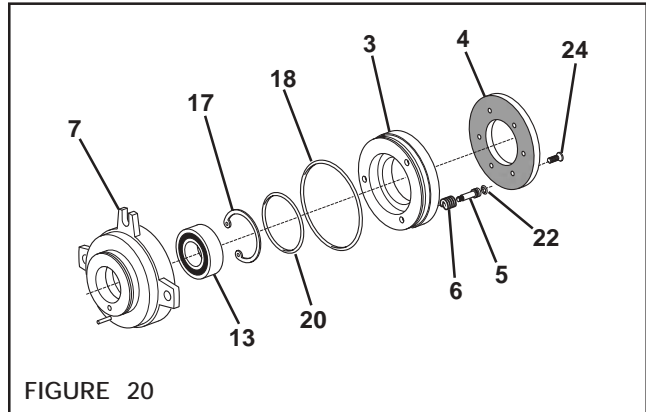

FIGURE 20
15. Remove the old Flat Head Machine Screws (Item 24) and Friction Facing (Item 4) from the Piston (Item 3) (See Figure 20).
16. Remove the old Shoulder Bolts (Item 5), Shoulder Bolt O-rings (Item 22), and Compression Springs (Item 6) (See Figure 20).
17. Separate the Piston Air Chamber (Item 7) and Piston (Item 3) (See Figure 20).
18. Remove the old O-ring Seals (Items 18 and 20) from the Piston Air Chamber (Item 7) and Piston (Item 3) (See Figure 20).
19. Remove the Retaining Ring (Item 17) (See Figure 20).
20. Press the old Ball Bearing (Item 13) out of the Piston Air Chamber (Item 7) (See Figure 20).
21. Clean the bearing bore of the Piston Air Chamber (Item 7) with fresh safety solvent, making sure all old Loctite® residue is removed (See Figure 20).
22. Apply an adequate amount of Loctite® 680 to evenly coat the outer race of the new Ball Bearing (Item 13) (See Figure 20).
24. Reinstall the Retaining Ring (Item 17) (See Figure 20).
26. Lubricate the new O-ring Seals (Items 18, 20, and 22) with fresh o-ring lubricant and install the new O-ring Seals (See Figure 20).
27. Press the Piston (Item 3) into the Piston Air Chamber (Item 7) (See Figure 20).
28. Apply Loctite® 242 to the threads of the Shoulder Bolts (Item 5); then, install the new Compression Springs (Item 6) and Shoulder Bolts (Item 5) with new O-ring Seals (Item 22) (See Figure 20).
29. Tighten the Shoulder Bolts (Item 5) to 43 In. Lbs. [4.8 N•m] torque (See Figure 20).
30. Install the new Friction Facing (Item 4) and tighten the new Flat Head Machine Screws (Item 24) to 26 In. Lbs. [2.9 N•m] torque (See Figure 20).